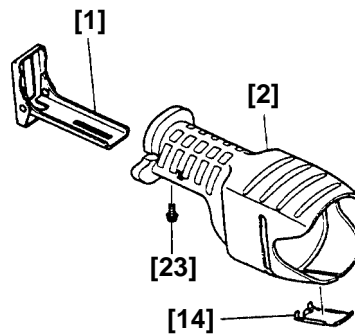

Fig. 1
(1) Removal of Front Cover (C) **[2]** (Fig. 1)